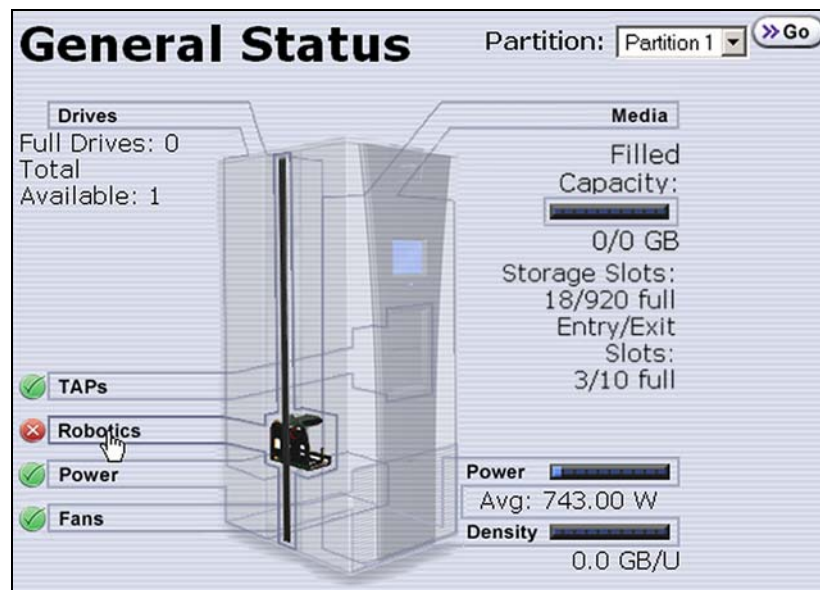

Figure 1 The General Status screen indicating a TeraPorter problem.
3. Click **Robotics** to display the Robotics Status screen (see Figure 1 on page 7).
3. Click **Robotics** to display the Robotics Status screen and select the **Robots** tab (see Figure 1 on page 7).
2. From the toolbar menu, select **General** > **General Status** to display the library's General Status screen (see Figure 1 on page 7).